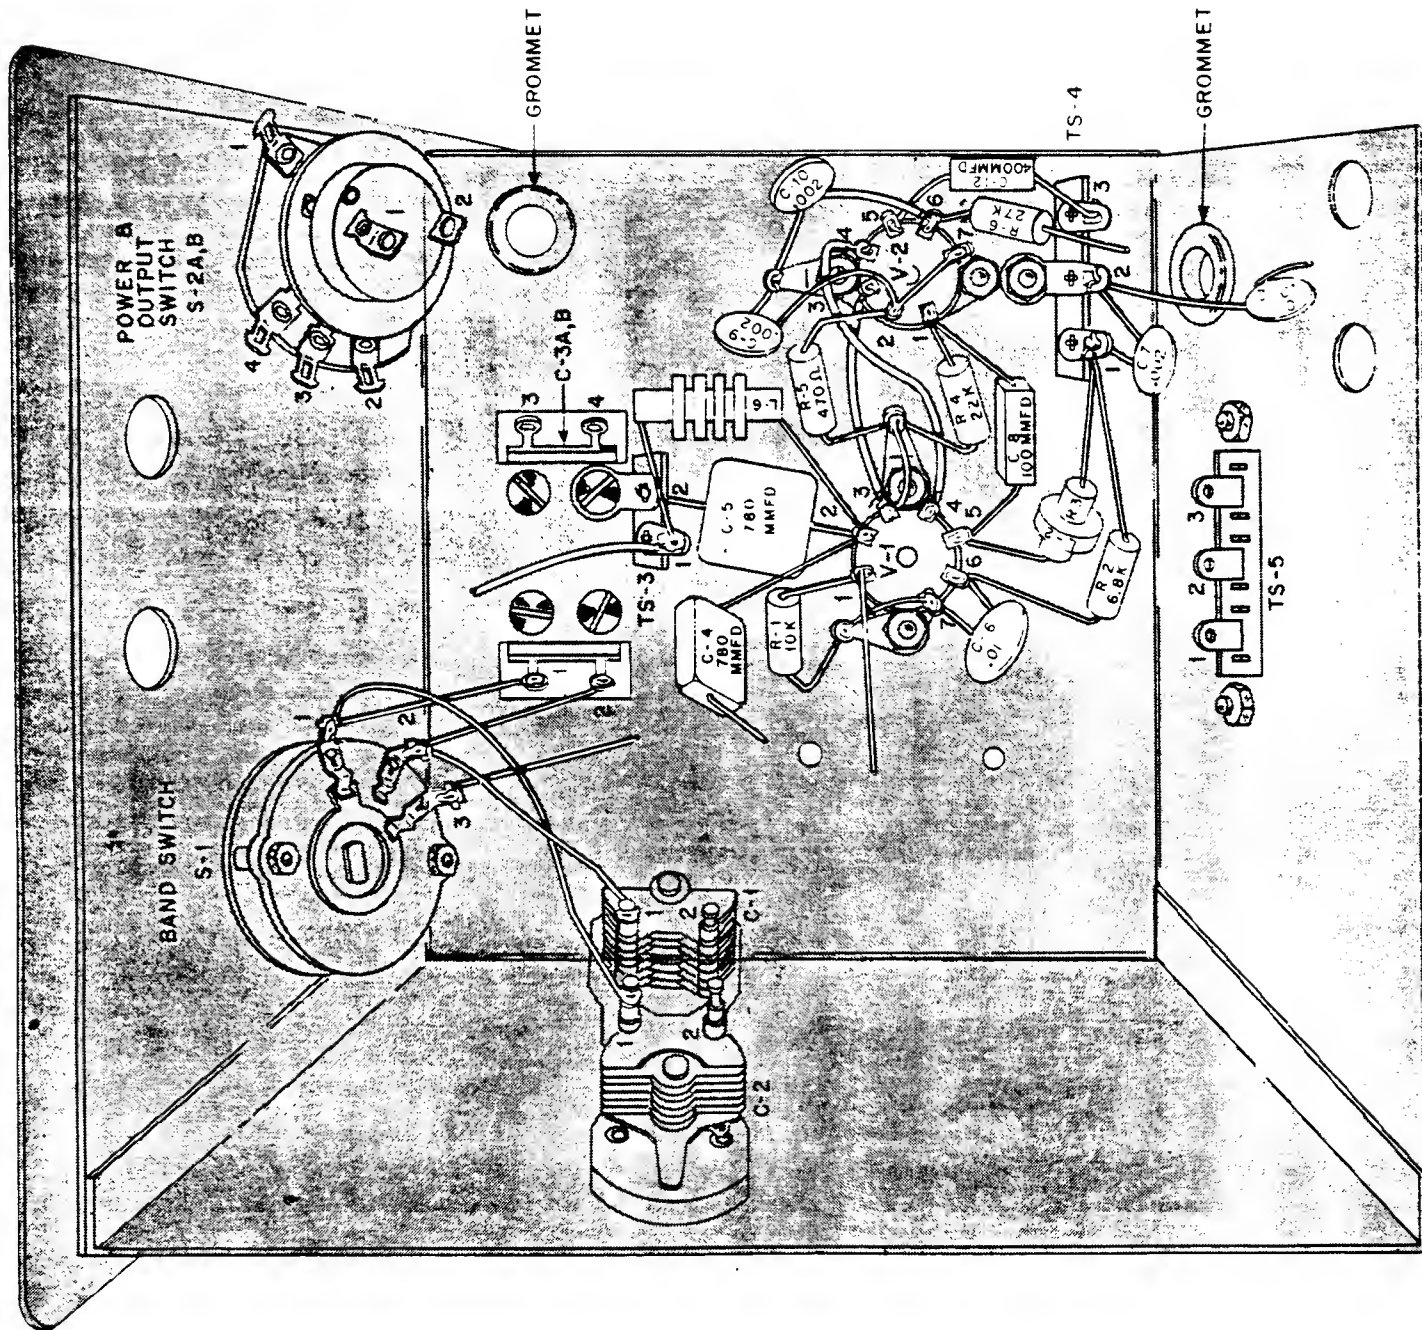

FIGURE 9. FIRST WIRING VIEW, OSCILLATOR CHASSIS
SEE FIGURE 9.
- () Check all of the work against Figure 9.